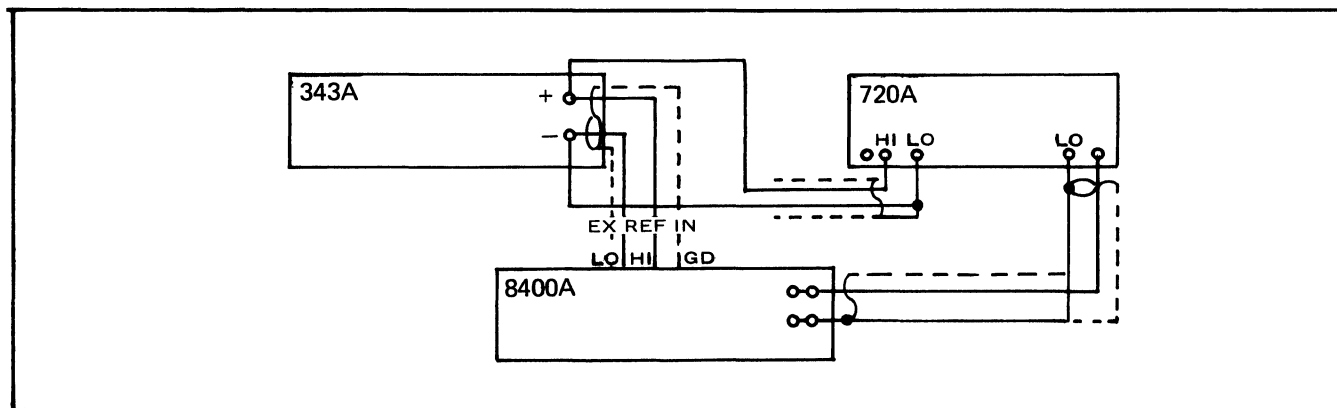

Figure 6-4. EQUIPMENT CONNECTIONS FOR DC EXTERNAL REFERENCE UNIT CALIBRATION.
- a. Connect the dc voltage source to the Model 8400A as shown in Figure 6-4.
- c. Connect equipment as shown in Figure 6-4.